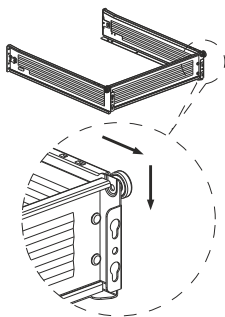

Fig. 3
2. Eccentric Cam for front facia height adjustment provided in 86mm & 125mm height full panels with 6mm bottom track (Refer Fig. 3).
7. Insert the Rear panel onto the Side panels through the key slot provided in the side panels (Refer Fig. 3).